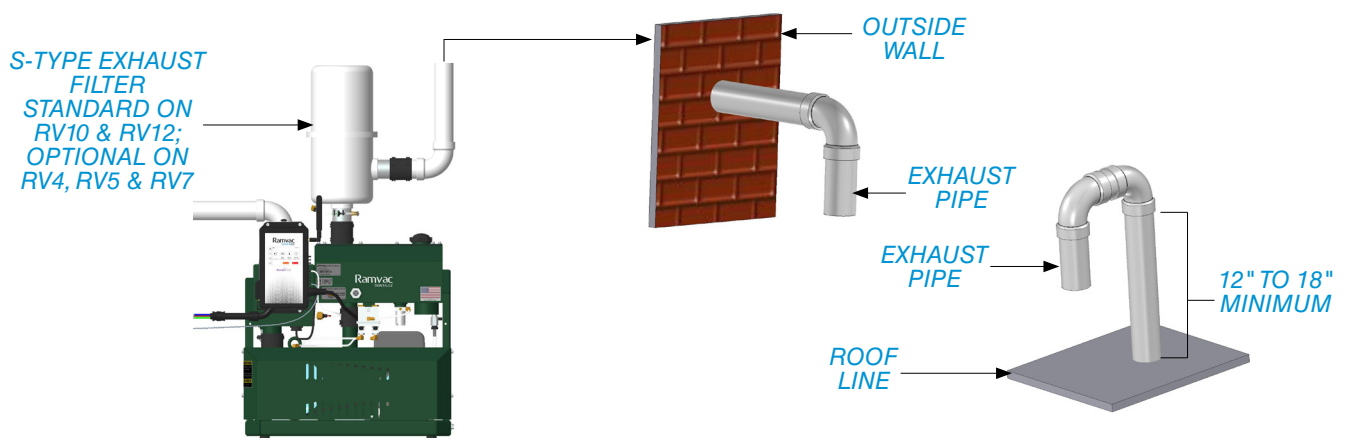

FIGURE 3. OUTSIDE END PLUMBING (INSTALLER SUPPLIED) FOR OUTSIDE WALL OR ROOF LINE
- Turn outside end down toward ground and screen to prevent entry of water, debris and creatures. Locate to prevent exhaust from entering building (*FIGURE 3*).